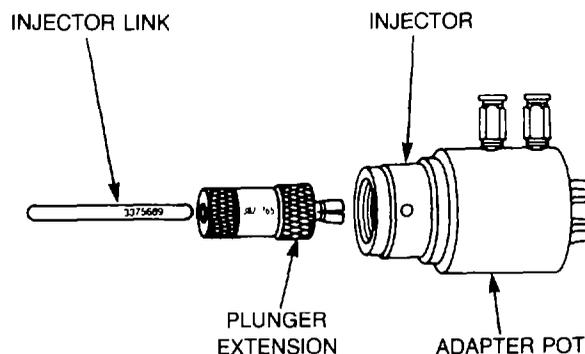

Figure 109 — Plunger Extension and Injector Link
- b. Install the plunger extension 3822765 into the injector plunger, followed by the injector link 3375689 (see Fig. 109).